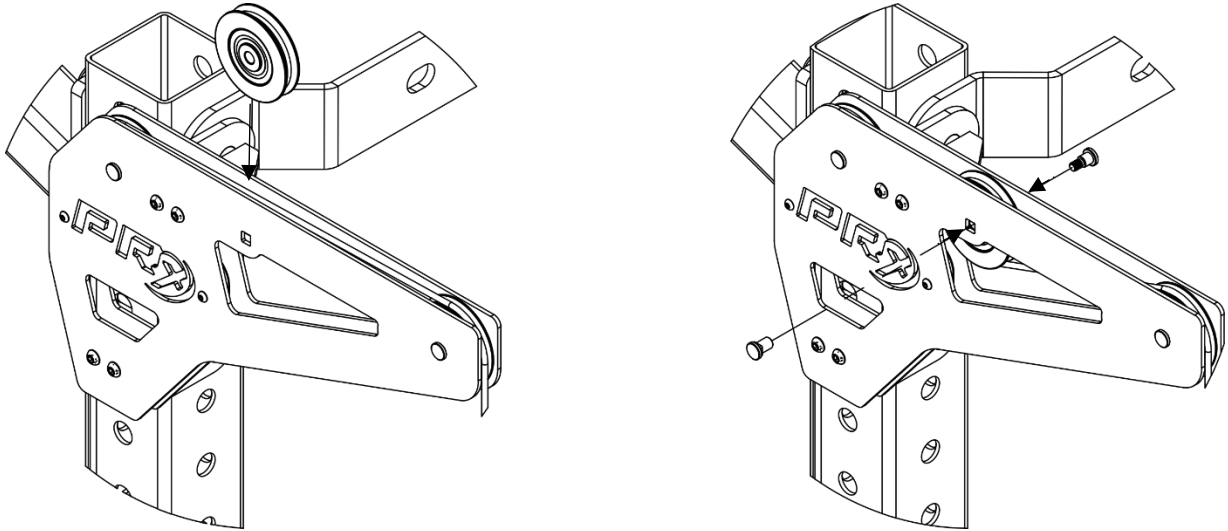

Figure 15: Reinstalling middle pulley on the Upper Arm on lat pulldown side
4. If you have bought and are installing two Functional Trainer Attachments, for the side where lat pulldowns WILL be performed, place the Upper Arm middle pulley on top of the cable as shown. Push the pulley into place and install the sex bolt using the 5mm L-Key (**Figure 15**). For the side where lat pulldowns will NOT be performed, skip this step.